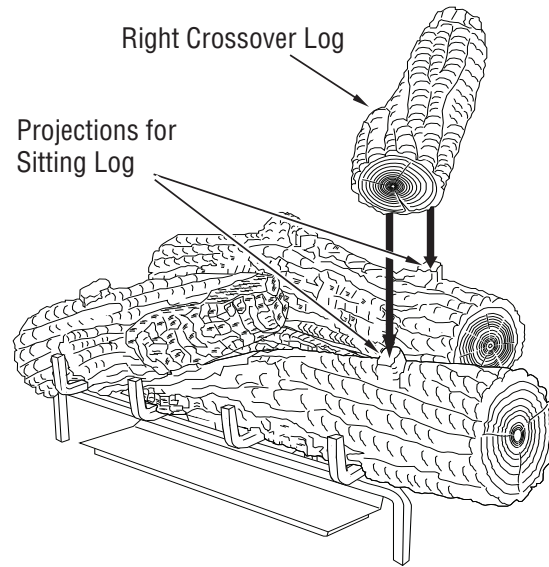

Figure 37 - Installing Right Crossover Log
5. Place the right crossover log onto the rear log and the right front log as shown in **Figure 37**.